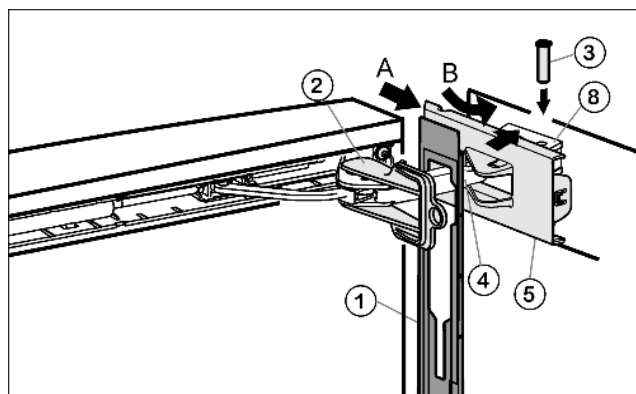

Fig. 34
- Hook panel Fig. 34 (1) into the damper bracket Fig. 34 (4) such that the detent hooks are pointing inwards and the front side is facing the appliance.
- Push on cover Fig. 34 (5) from the outside (A) and pivot over the bearing part Fig. 34 (8) (B).
- Place cover Fig. 34 (5) on top and allow to snap into place until the first notch.
- Pull damper bracket Fig. 34 (4) towards bearing part and insert bolt Fig. 34 (3) from above such that the square is resting in the recess.
- Now snap cover Fig. 34 (5) completely into place on the bearing part Fig. 34 (8).
- Remove locking device Fig. 34 (2) by twisting it.
- Snap panel Fig. 34 (1) into place on the door.